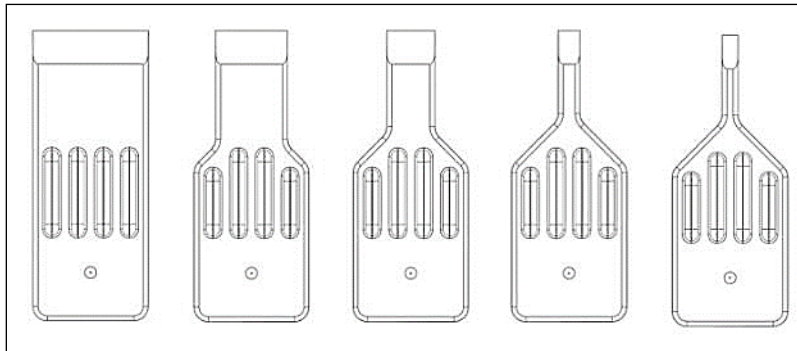

Figure 1. TSB Configurations
- 3.1.1. Choose an appropriately sized TSB for the application or task being performed. See **Figure 1**.